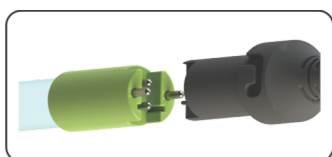

Figure 7a. Standard Output UV Lamp Connection
Step 13: Plug the lamp connector into the lamp. Note the keying for proper alignment (see Figure 7a, 7b). Insert the lamp connector into the gland nut and turn the connector approximately $\frac{1}{4}$ turn to lock the connector to the gland nut as in Figure 9.